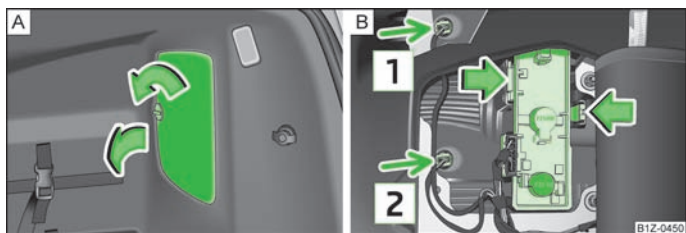

Fig. 171 Luggage compartment: Cover of the lamp holder/removing the lamp holder
- › Unlock the cover of the lamp holder, open » Fig. 171 - [A].
- › Press the catches in the direction of the arrow and remove the lamp holder » Fig. 171 - [B].